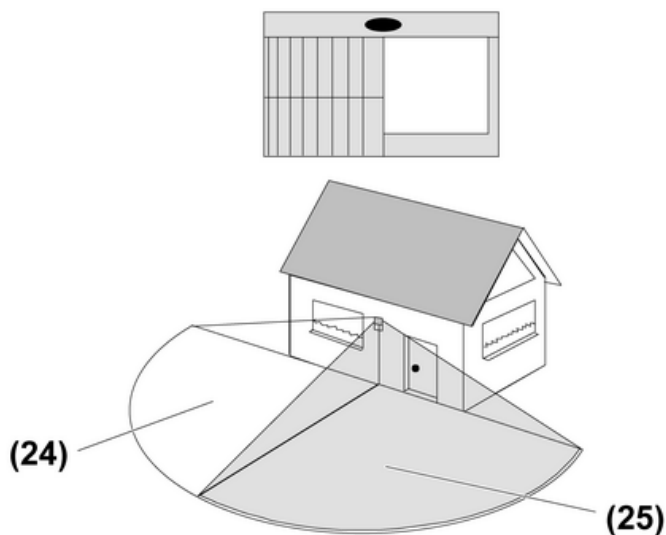
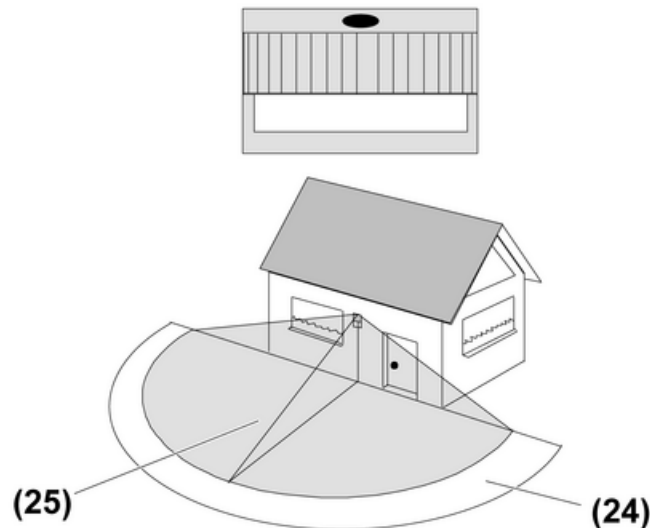

Figure 23: Hiding the side areas
Figure 24: Hiding the long range
Unrequired detection areas can be hidden using the cover panel (26). See (Figure 23) and (Figure 24).